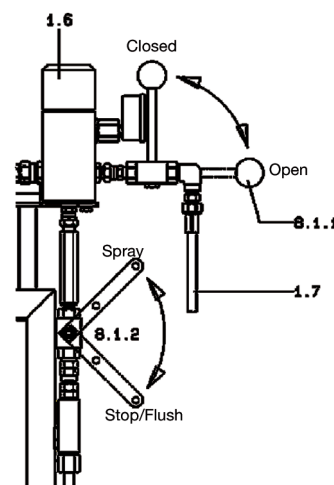
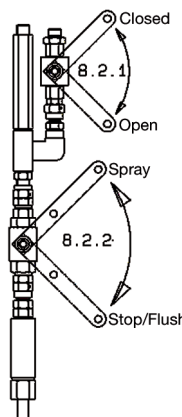

Figure 5.1.2
Figure 5.1.4
On this equipment version the return hoses (Fig. 5.1.2, Pos. 1.7) are connected to the high pressure filters. The circulation of material through the system or the drainage and/or relieving the pressure from the equipment is controlled by operating the lever (Fig. 5.1.2, Pos. 8.1.1). This circulation results in a uniform material consistency throughout the complete system or the ventilation of the equipment.
The return flow hoses (Fig. 5.1.2, Pos. 1.7) run from the high pressure filters to the material containers.
The return flow hoses (Fig. 5.1.2, Pos. 1.7) run from the high pressure filters to the empty material containers.
- Shift the lever (Fig. 5.1.2, Pos. 8.1.1) to position "OPEN / Return flow open".
- Set the lever (Fig. 5.1.2, Pos. 8.1.2) to position "STOP/FLUSH":
- Pull the lever (Fig. 5.1.2, Pos. 8.1.1) up ("CLOSED / Return flow closed"). The material flow through the return flow hoses is now interrupted.
- Set the lever (Fig. 5.1.2, Pos. 8.1.2) to position "SPRAY".
With this equipment design no Return flow hoses are connected to the high pressure filters, these are part of the hose package for the external mixer and are to be connected there. The lever between the high pressure filters (Fig. 5.1.4, Pos. 8.2.1) is used to relieve the system pressure or to flush the high pressure filters (see chapter 8.3). The system is vented through the external mixer.
- Shift the lever (Fig. 5.1.2, Pos. 8.1.2) to position "CLOSED/ Return flow closed".
- Shift the lever (Fig. 5.1.4, Pos. 8.2.1) to position "OPEN".
- Set the lever (Fig. 5.1.4, Pos. 8.2.2) to position "STOP/FLUSH":
- Pull the lever (Fig. 5.1.4, Pos. 8.2.1) to position "CLOSED". The material flow through the return flow hoses is now interrupted.
- Set the lever (Fig. 5.1.4, Pos. 8.2.2) to position "SPRAY".
- Set the lever (standard mixer: Fig. 5.1.2, Pos. 8.1.2 / external mixer Fig. 5.1.4, Pos. 8.2.2) to "STOP / FLUSH".
- Set the lever (standard mixer: Fig. 5.1.2, Pos. 8.1.1 / external mixer: Fig. 5.1.4, Pos. 8.2.1) to "OPEN / Return flow open".
- Set the lever (standard mixer: Fig. 5.1.2, Pos. 8.1.2 / external mixer: Fig. 5.1.4, Pos. 8.2.2) to "STOP / FLUSH".
Set the lever (standard mixer: Fig. 5.1.2, Pos. 8.1.1 / external mixer: Fig. 5.1.4, Pos. 8.2.1) to "OPEN / Return flow open".
- Shift the lever (standard mixer: Fig. 5.1.2, Pos. 8.1.1 / external mixer: Fig. 5.1.4, Pos. 8.2.1) up to position "CLOSED/ Return flow closed".
- Set the lever (standard mixer: Fig. 5.1.2, Pos. 8.1.2 / external mixer: Fig. 5.1.4, Pos. 8.2.2) to "SPRAY".